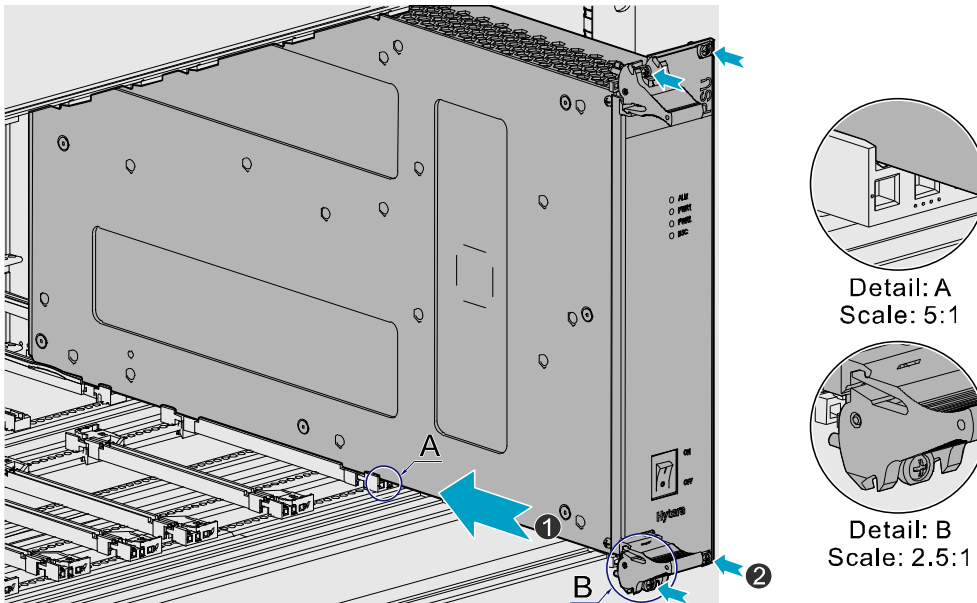

Figure 3-10 Installing the BSCU
2. Slide the BSCU along the guide rails smoothly as shown in Figure 3-10 \(1\).
4. Tighten the two screws on the two ejectors and the board respectively as shown in Figure 3-10 \(2\).